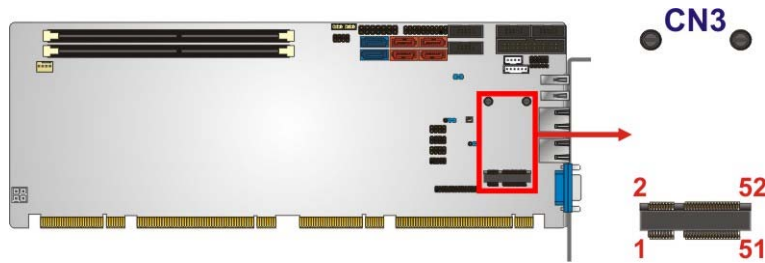

Figure 3-14: PCIe Mini Card Slot Location
- CN Location:** See **Figure 3-14**